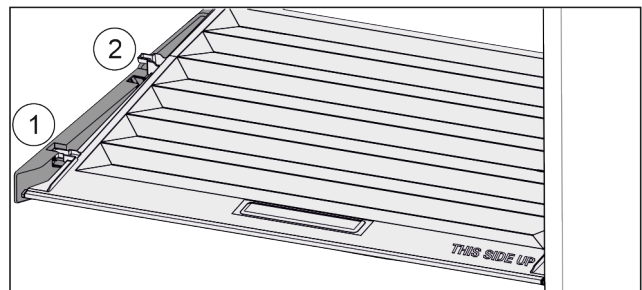

Fig. 35
- ▶ Pull the lid up at the front in the retaining parts to the opening Fig. 35 (1).
- ▶ Lift from the back and pull it up and out Fig. 35 (2).